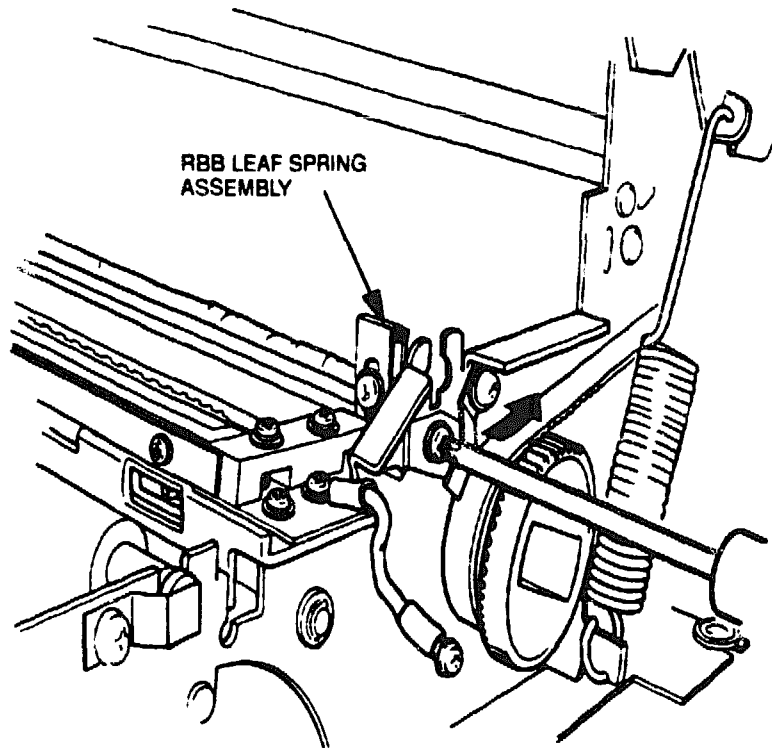

Figure 6-43 RBB Leaf Spring Assembly
3. Remove the screw shown in Figure 6-43 that secures the leaf spring bracket and lift the RBB leaf spring assembly from the lower side frame (R).